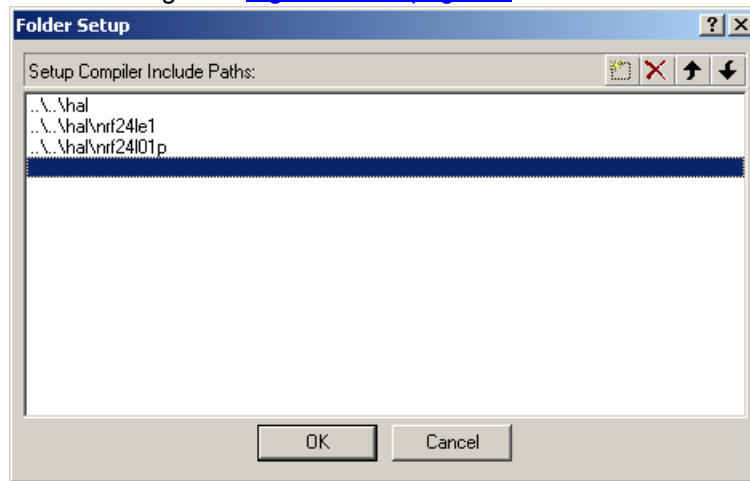

Figure 11. Confirm by pressing OK
16. The folders you now have included contain all the HAL files that you will use later to configure the various hardware modules inside the nRF24LE1. If you are developing with another device, you will need to include the hardware specific files for that device. All devices supported by the HAL have their own folders. Select **OK** in the “Folder setup” dialog as shown in Figure 11. when done.